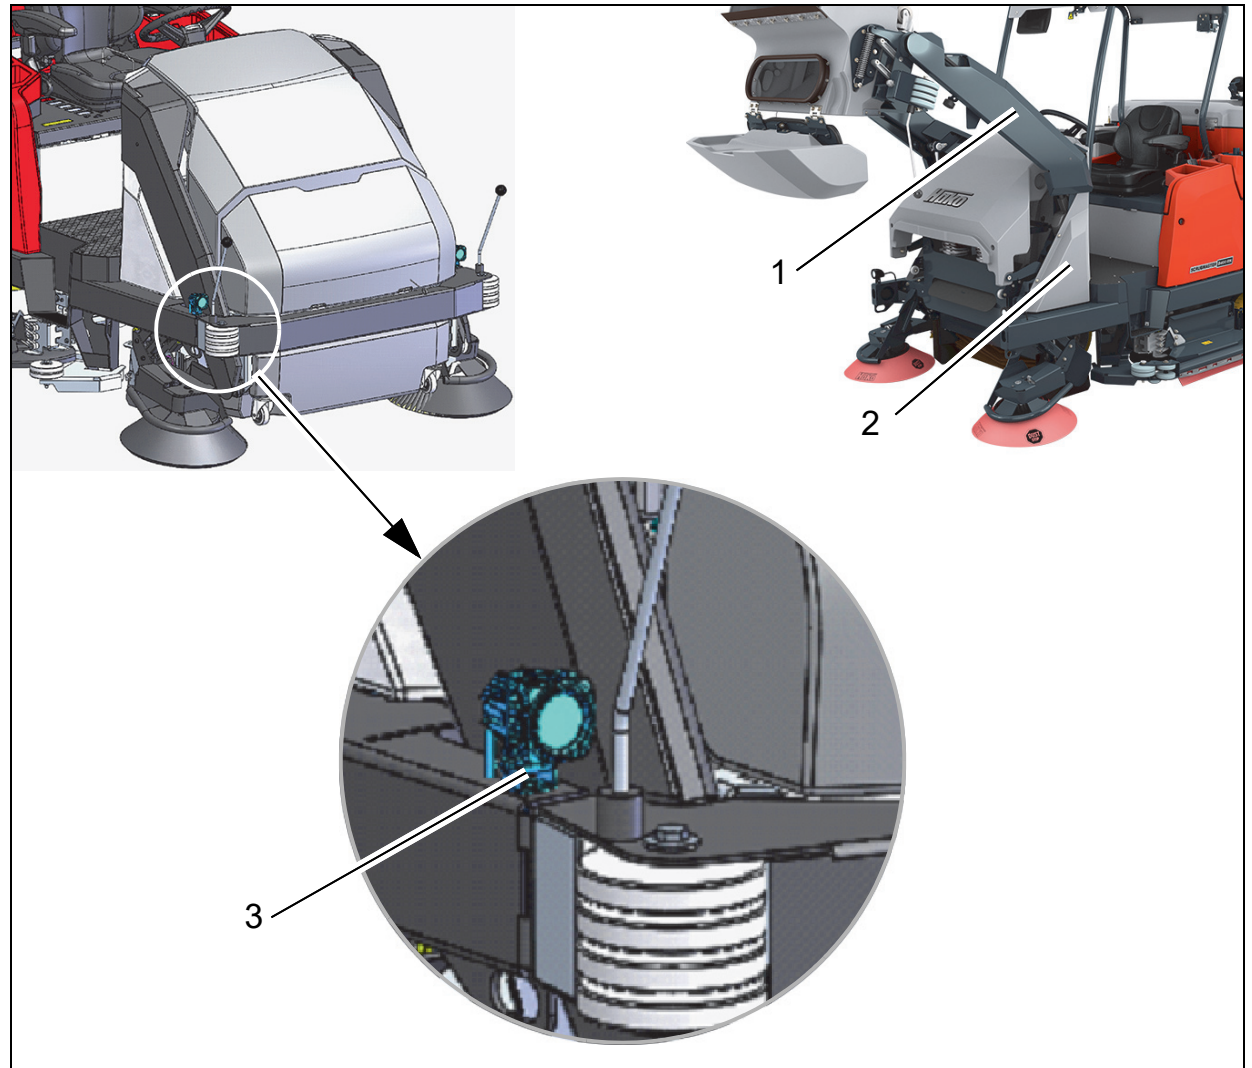

Fig. 5
- Chain cover on both sides (Fig. 5/1)
- Grey cover on both sides (Fig. 5/2)
3. Attach the LED working light to the bumper using the washer and nut (Fig. 5/3).